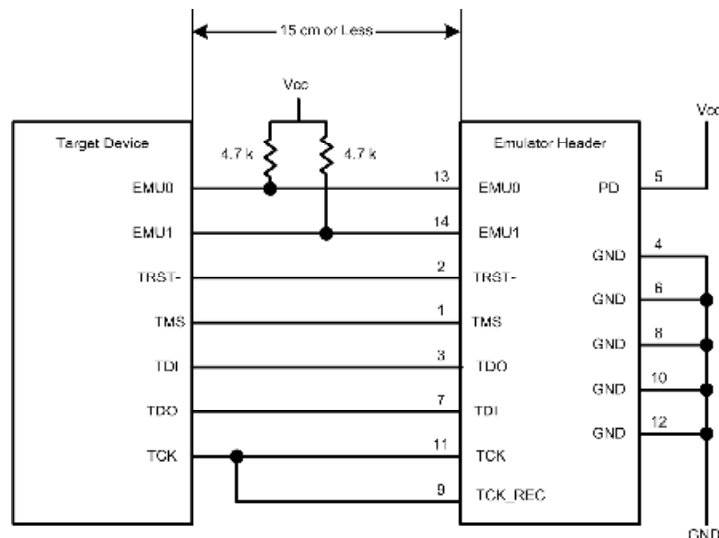

Figure 3-6. No Signal Buffering
- **No signal buffering.** As shown in figure 3-6, the distance between the header and the target device does not exceed 15 cm.